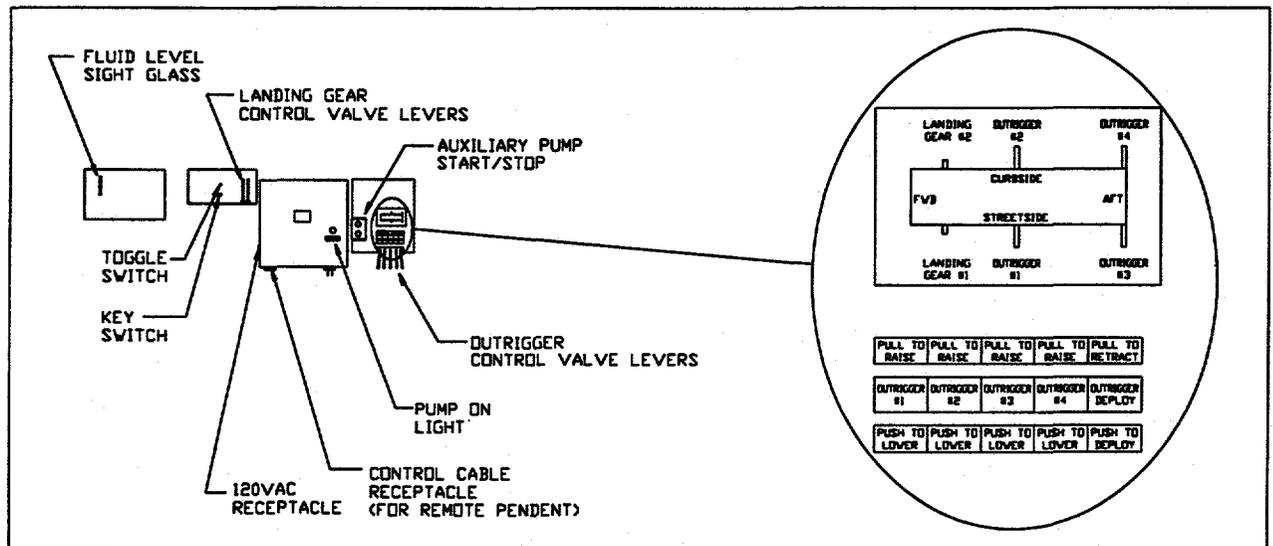
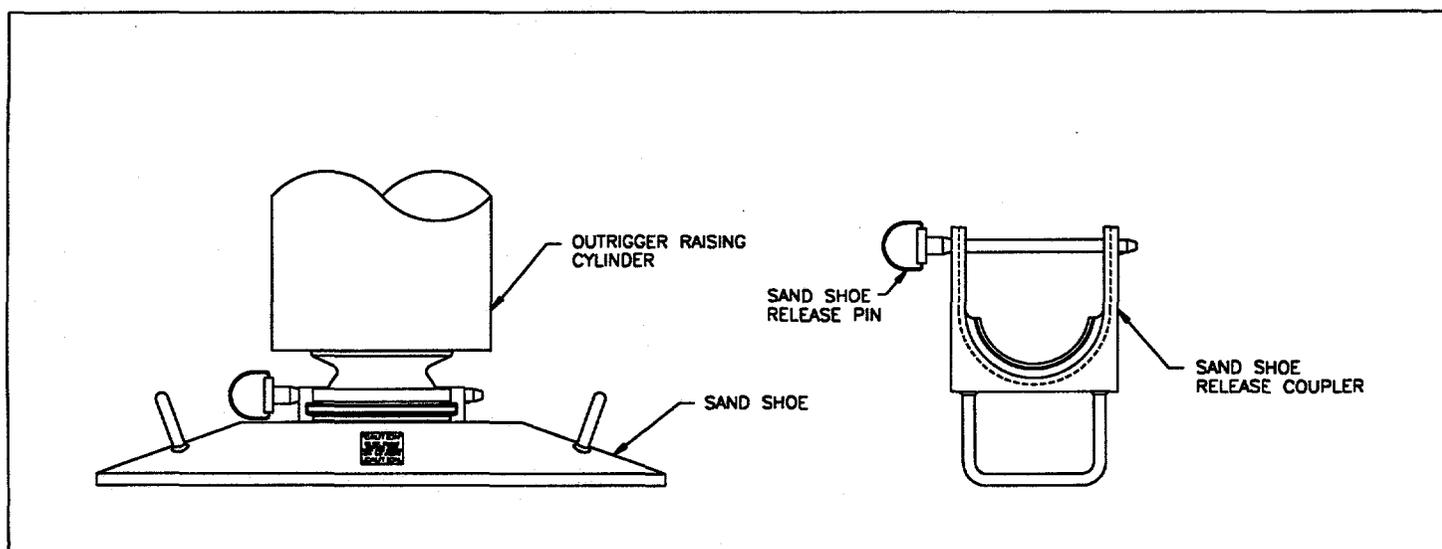

FIGURE 2, TRAILER MOUNTED CONTROLS
FIGURE 3, SAND SHOE
- 6 Check the outrigger control valves for signs of damage (Figure 2, page 7). Check the actuation of each valve. The lever should move smoothly and solidly to the stops in both directions and should spring back to the neutral position.
- 9 Check the landing gear control valves for signs of damage (Figure 2, page 7). Check the actuation of each valve. The lever should move smoothly to the stops in both directions and should spring back to the neutral position.
- 1 Turn the key switch fully clockwise (Figure 2, page 7).
- 3 Locate the remote pendent and verify that all control switches on the pendent are in the neutral or OFF position. Plug the control cable into the receptacle located on the NEMA 4X control box (Figure 2, page 7). This is done by inserting the plug and twisting it counter clockwise.
- 3 Start the auxiliary pump by pushing the pump start button located at the trailer mounted control panel (Figure 2, page 7).
- 4 Deploy the outriggers to the operational position by pushing in the OUTRIGGER DEPLOY lever located at the trailer mounted control panel (Figure 2, page 7). The outriggers will move to the fully extended position one at a time.
- 5 Place the sand shoes on the ground below the outrigger cylinders. Verify that the sand shoe release pin and coupler are removed from the sand shoes (Figure 3, page 8).
- 6 The outriggers are raised and lowered by actuating the OUTRIGGER # levers located at the trailer mounted control panel (the lever # indicates the outrigger # as shown on the placard, Figure 2, page 7). Lower the outriggers one at a time so the ball of the cylinder fits into the socket of the sand shoe. Extend the outriggers just enough to load the cylinders slightly, do not lift the trailer with the outriggers at this point. Attach the sand shoe release couplers and pins (Figure 3, page 8).